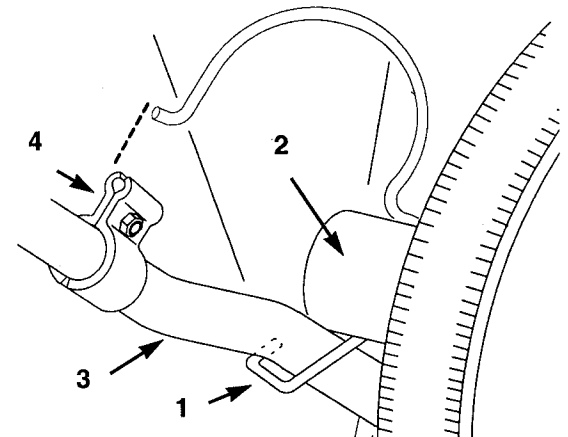

Figure 88
- B. Place the right-hand hold-down spring under the axle support and hook it under the mower handle (Fig. 88).
- C. Rotate the hold-down spring over the axle support and toward the clamp (Fig. 88). Now move the clamp so its back edge lines up with the end of the hold-down spring and secure the clamp in place by tightening the lock nut.